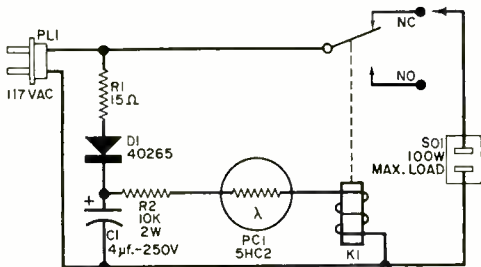

Fig. 1. For dusk-to-dawn control, connect load circuit to the NC relay contacts; for photocell relay application, connect load to the NO contacts.
Fig. 1. The ordinary power pack is nothing more than a full-wave rectifier whose output is a pulsating d.c. voltage with peaks that look like the waveform above. For most locos, the average power required for starting is much too high for a smooth start, and the trains pull out with a sudden jerk, and at a speed not akin to real railroading.
a simple one, as Fig. 1 shows. It is just a d.c. power supply ( $R1$ ,  $D1$ , and  $C1$ ), and a limiting resistor ( $R2$ ), a cadmium sulfide photocell ( $PC1$ ), and a d.c. relay ( $K1$ ), all connected in series.
**How It Works.** The speed controller consists of a dual amplifier and two separate potentiometer throttles—one for each amplifier (Fig. 1). Each amplifier output drives a separate lane of the speedway.
Fig. 1. In this two-lane speed controller, each channel is a mirror image of the other. The speed control potentiometers are mounted on individual chassis, and are connected to the amplifier circuit by long cables. For compactness, mount the slot racer power pack on top of the amplifier chassis.
After you have mounted each potentiometer on its Minibox, wire it up as shown in Fig. 1 using the three-conductor flexible cable (you can make the cable any length you wish). Connect the other end of the cable to the main chassis.
As seen in Fig. 1, the Electrolock is a series circuit consisting of a battery, a solenoid, a push-button switch, and four rotary switches. The plunger of the solenoid is connected to a small barrel bolt, and a small spring holds the bolt closed when the solenoid is not activated. But when you dial the right four numbers and depress the push button, you complete the circuit, current flows through the solenoid, and the plunger pulls back the barrel bolt. When the push button is released, the spring pulls the bolt into the closed position again.
Fig. 1. Any combination can be made by selecting different switch positions. As there are more than 20,000 possible combinations, chances of "picking" the lock are discouraging. Furthermore, if you add a fifth switch, you can get 248,832 combinations.